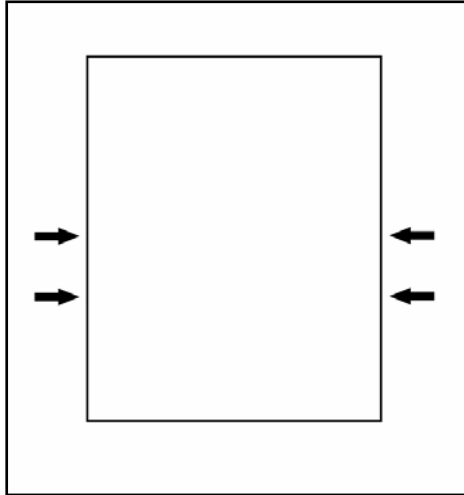

Figure 5-5: Integrated Door Panel Screw Locations
2. Support the panel while loosening the 4 screws, Figure 5-5.